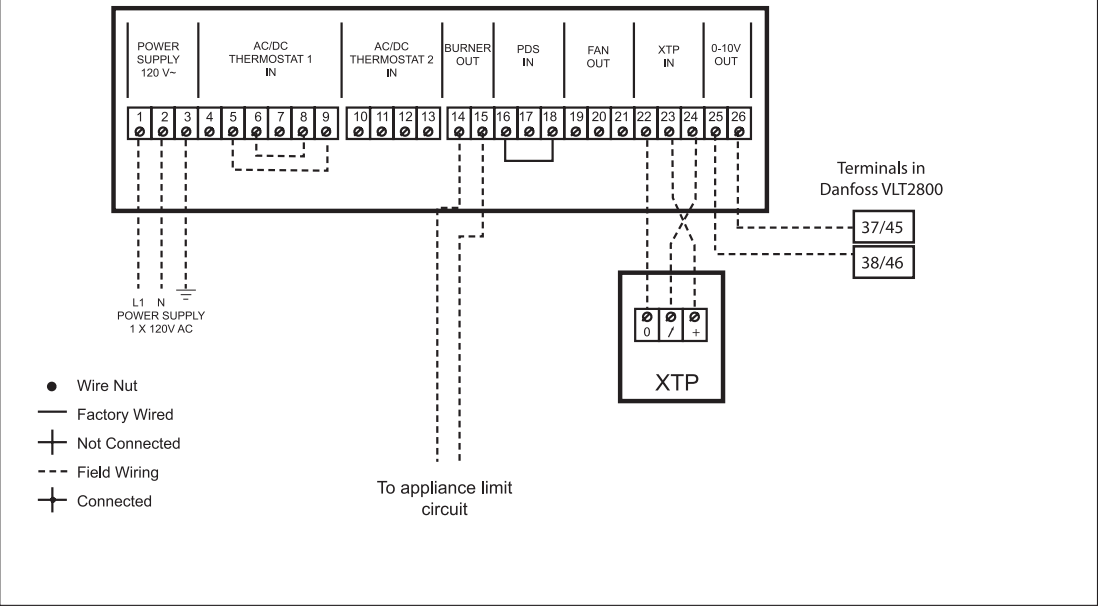

Fig. 10
- Please refer to the wiring diagram for the Variable Frequency Drive and fig. 10 at next page.